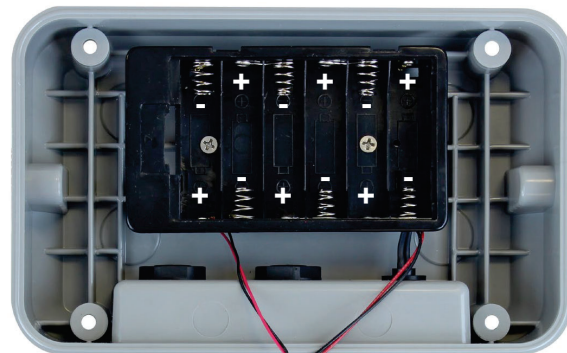
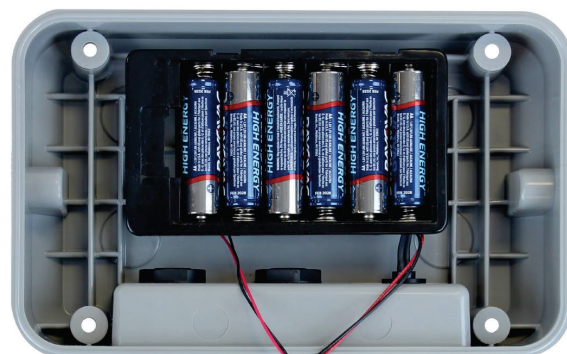

Figure No. 4
Figure No. 5
6. If installing new batteries, referring to Figure No.4 and the polarity markings located in the battery holder, install 6 new “AA” size batteries in the battery holder. See Figure No. 5.
7. If replacing the batteries, remove all 6 batteries from the battery holder, and then referring to Figure No.4 and the polarity markings located in the battery holder, install 6 new “AA” size batteries in the battery holder. See Figure No. 5.
12. Secure the rear panel to the main housing with the four (4) Phillips screws removed earlier, torqueing them to 20 inch-pounds (2.26 newton-metre). The Model 185B is ready for normal operations.